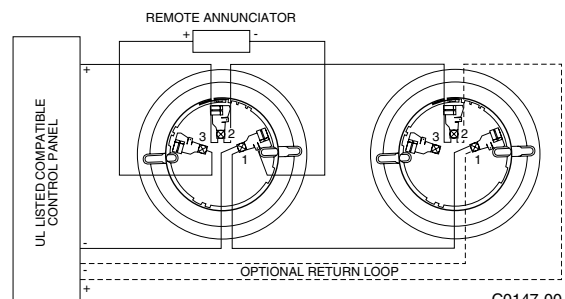

Figure 1. Wiring Diagram
1. Wire the sensor base (supplied separately) per the wiring diagram (Figure 1).